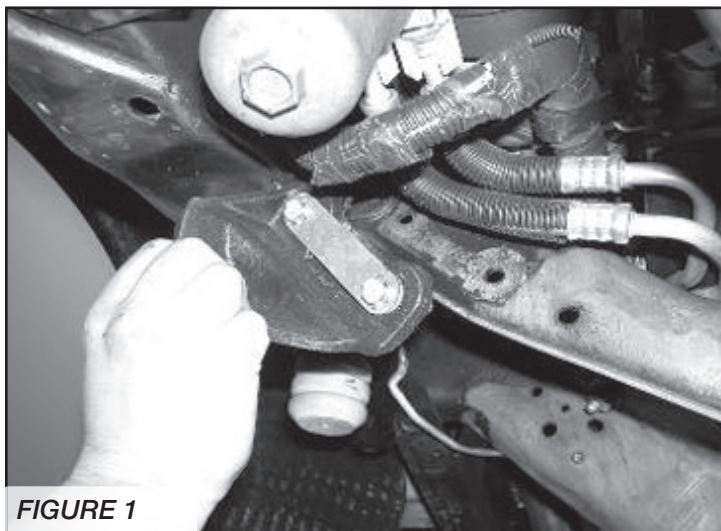

FIGURE 1
6. Remove the factory steering stabilizer from the frame mount and the drag link, save the hardware. Remove the steering stabilizer frame bracket and save the hardware. Discard the frame bracket. **SEE FIGURE 1**